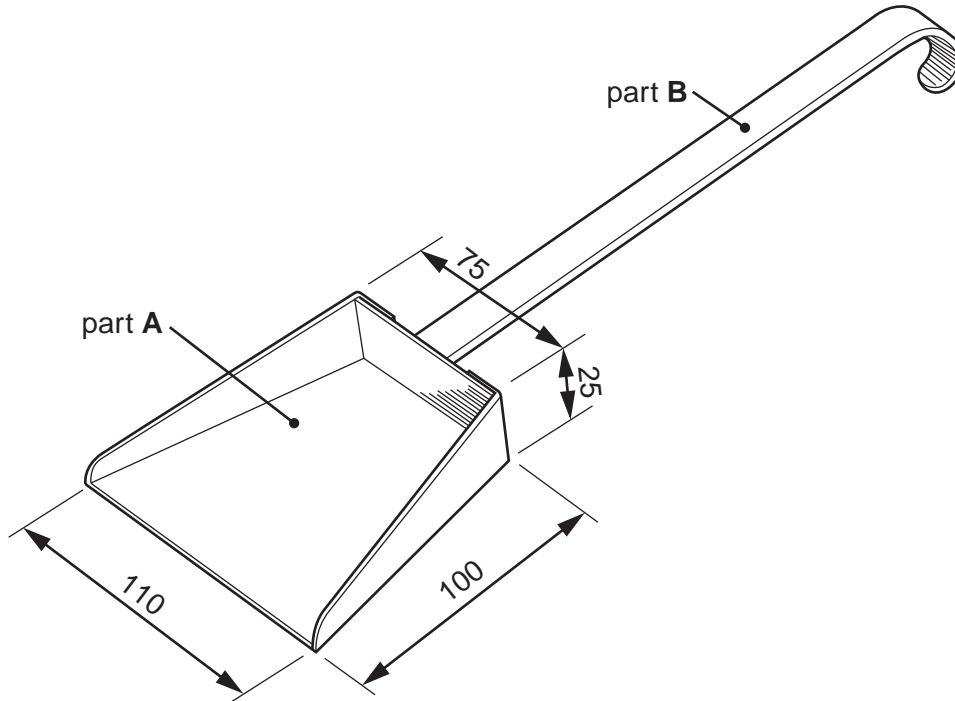

Fig. 1
- 1 Fig. 1 shows a small shovel which is to be made in a school workshop. The shovel will be used to move hot charcoal on a barbecue.